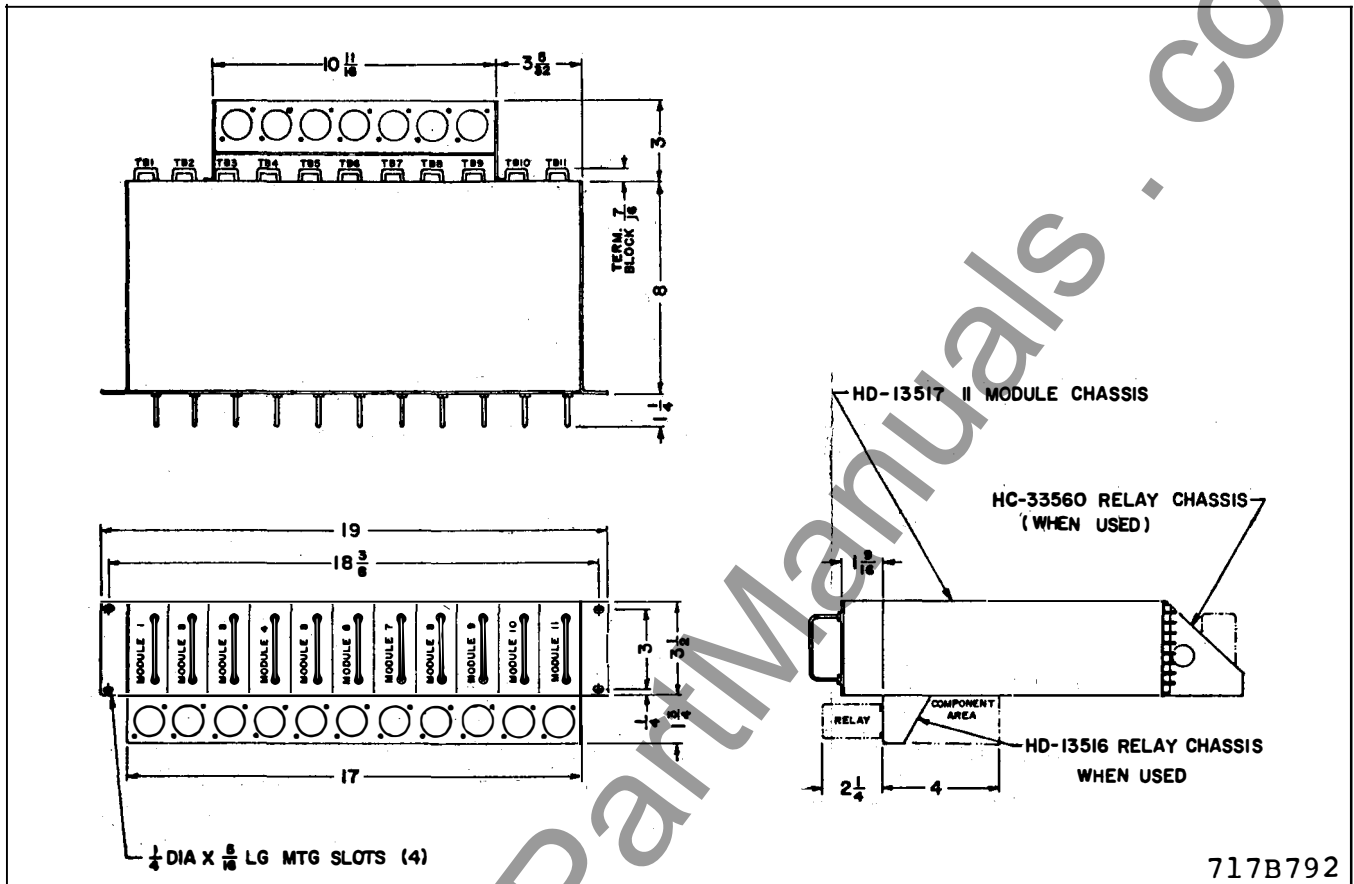

Fig. 4 - Outline and Drilling Plan of 11 Module Chassis
The output relays may be either telephone type relays or high speed Mercury-type relays to energize external type AR relays. On systems with telephone type relays, the relays are mounted on the same chassis as the modules and current jacks are used to monitor the relay coil current. FDR type AR relay system, the Mercury relays are mounted on a shortened rear bracket. See Fig. 4.
a) An eleven module chassis with a nominal overall size of  $5\frac{1}{4}$ " h x 19" w x  $9\frac{3}{4}$ " d, which mounts in standard relay rack. Outline and drilling dimensions are shown in Figure 4.